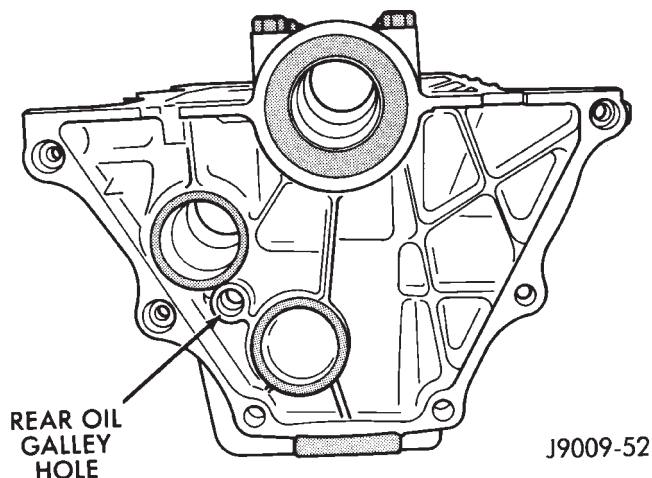

Fig. 74 Rear Oil Galley Hole
- The front and rear oil galley holes (Fig. 73) (Fig. 74).